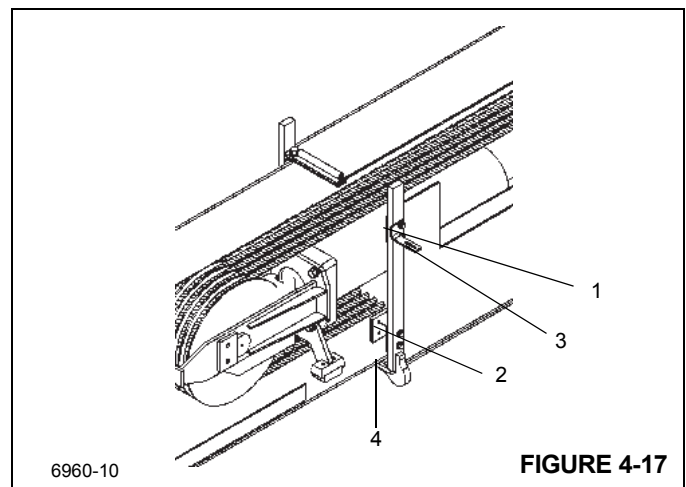

FIGURE 4-17
9. Remove the capscrews securing each top (1) and bottom (2) (Figure 4-17) side wear pads at the front of the outer mid. Remove wear pads, shims, and mounting angle (3) (top left side only).
10. Lift up on the front of the fly assembly and remove the wear pads (4) (Figure 4-17) from the pockets in the bottom of the outer mid.